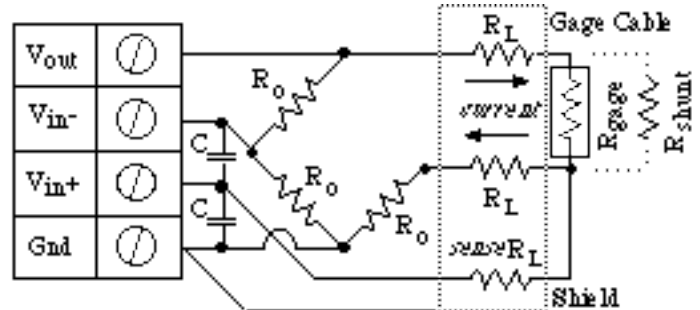

Fig 3.7 - Strain Measurement - Quarter Bridge Circuit
voltage for the bridge is supplied by either the instruNet **Vout** terminal or by an external voltage source. In figure 3.7, R_{gage} is a strain gage, R_0 is either a fixed resistor of known value or a fixed unstrained strain gage of value R_0 , and R_L is the lead wire resistance. instruNet calculates the value of the strain, returning "strain" engineering units, using the equations:
10. Wire your voltage source per figure 3.7, and refer to the steps at the beginning of this chapter for more information on how to set up your sensor.^{5,10}